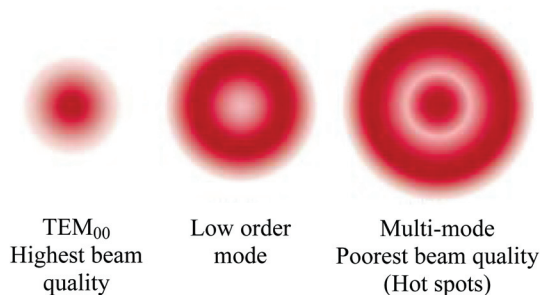

Figure 3
Beam quality output mode refers to the energy distribution within the laser beam and is critical to marking performance. Lasers can be supplied by manufacturers as multimode (MM), TEM00 (Transverse Electromagnetic Mode) or anything in between including Low-Order Mode (LOM). These output modes relate to factors including the beam divergence and power distribution across the diameter of the laser beam. A TEM00 laser beam can be focused to the smallest size spot that the focusing optics permit and the energy distribution in a TEM00 laser beam is most intense at its center and tapers off uniformly from its center to its edges. TEM00 laser output provides the highest beam quality. Multi-Mode (MM) laser output provides the poorest beam quality. Reference Figure 3. Low-order and TEM00 mode lasers are particularly well suited for high speed vector marking of single-stroke alphanumeric, filled true-type fonts, and complex graphics because of their ability to achieve a small focused spot with very high power densities, resulting in a very narrow line with well defined edges that can be drawn quickly. Most plastics applications are optimal using near TEM00 or TEM00 laser beams.